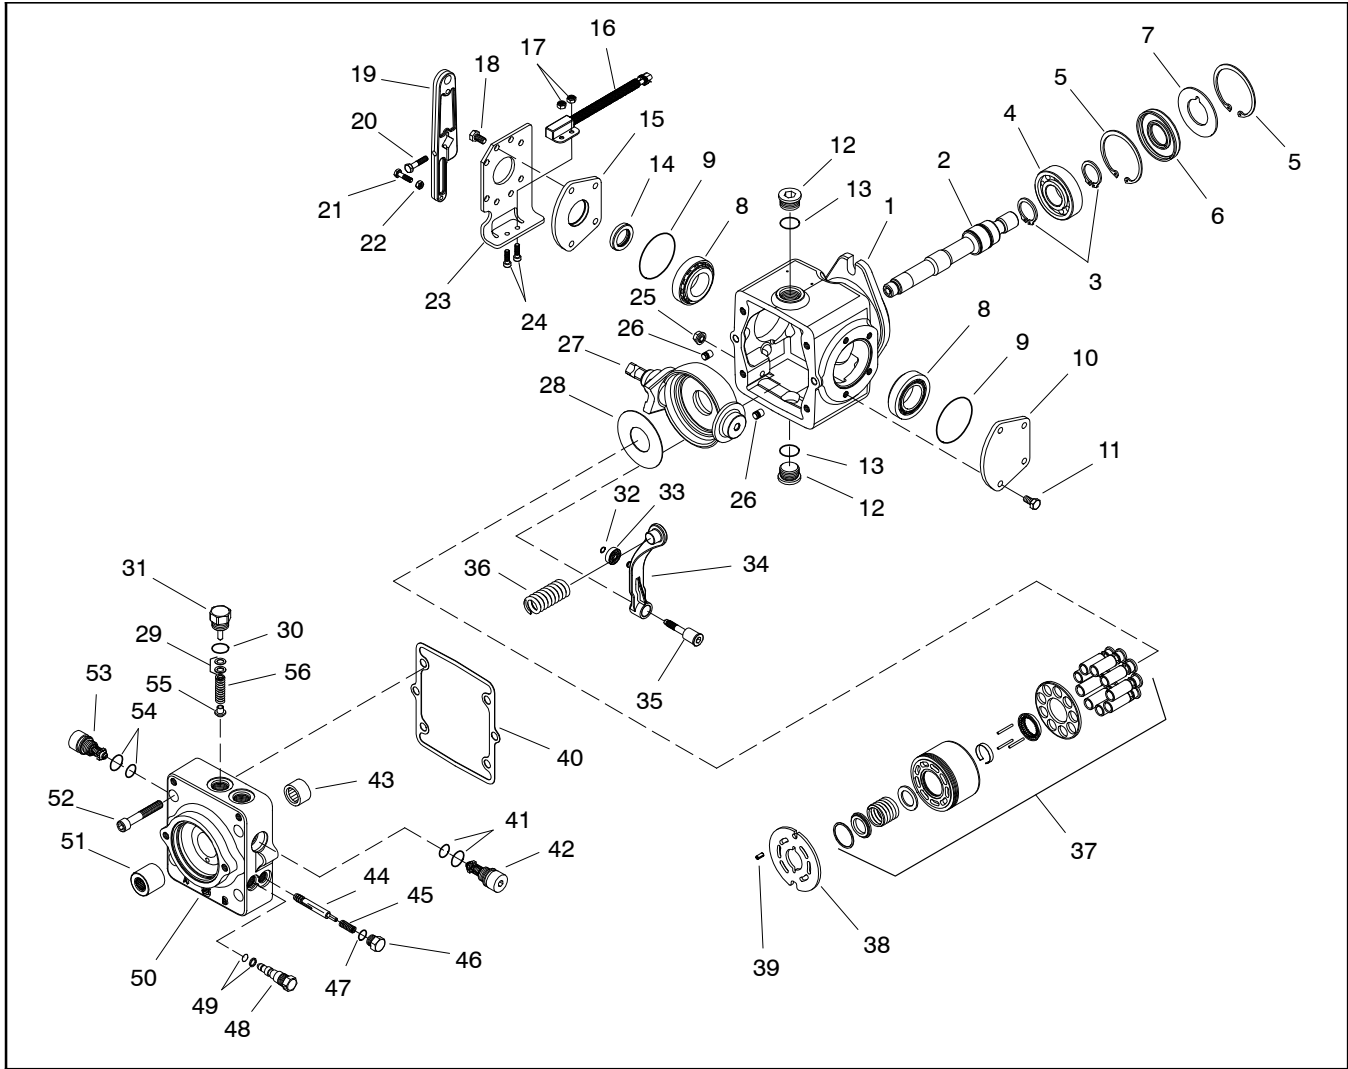
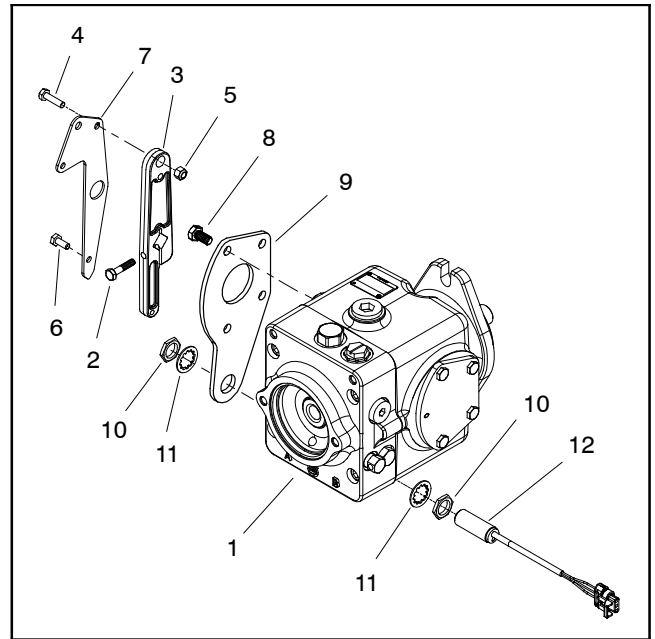
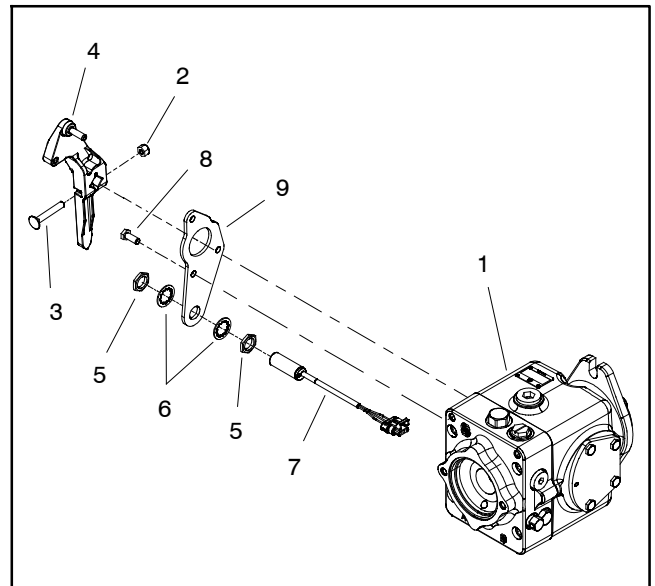

Figure 62
Figure 63
Figure 64
Three (3) styles of traction control assemblies have been used on Reelmaster 5010 machines. Machines with a serial number below 310000000 use traction control components as shown in Fig. 62. Machines with a serial number from 310000001 to 310999999 include control components that are shown in Fig. 63. Machines with a serial number above 311000001 use control components that are shown in Fig. 64.